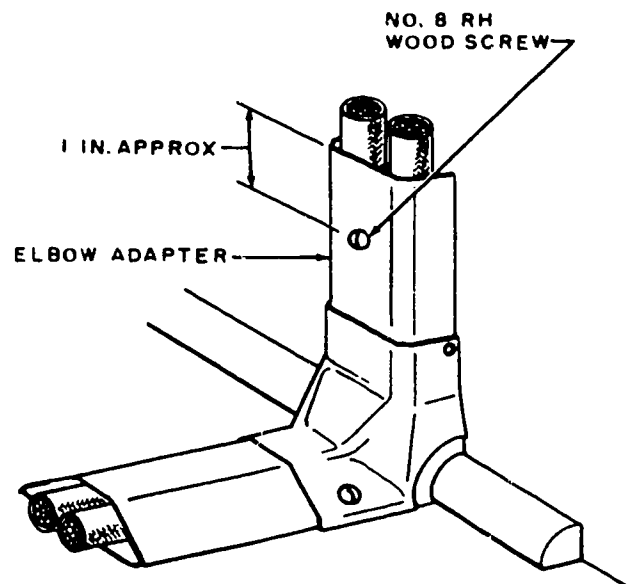

Figure 3-54. Securing overfloor duct elbow adapter.
b. Fasten the base to the floor with wood screws, wood screws in screw anchors, or hammer drive anchors, your choice depending on the type of flooring. Also, if the floor or baseboard is uneven and an elbow adapter does not fit snugly, secure the top portion of the adapter to the baseboard with a No. 8 roundhead wood screw, as shown in figure 3-54. Drill a hole for the screw in the centerline of the fitting about 1 inch from the top.